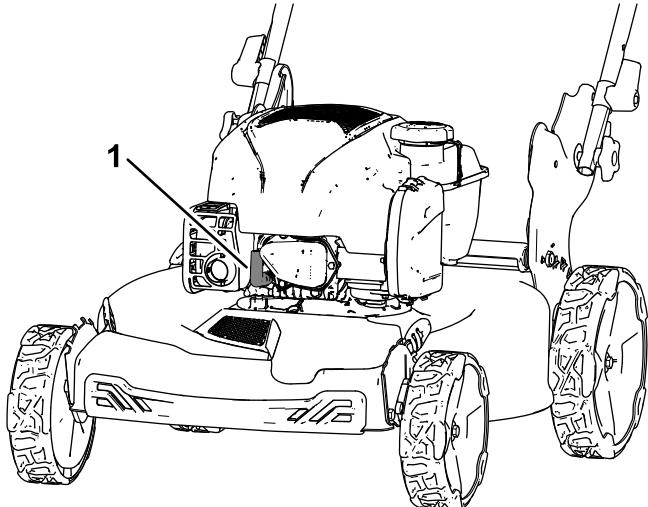

Figure 17
- Disconnect the spark-plug wire from the spark plug (Figure 17).